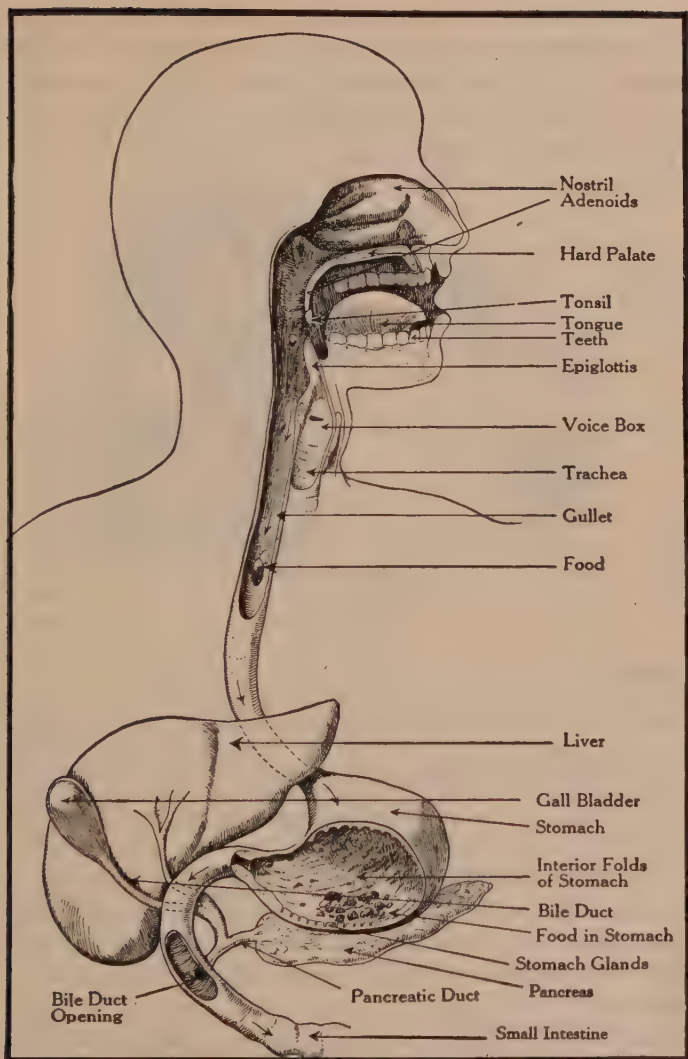

FIGURE 287. — MOUTH, GULLET, STOMACH, AND INTESTINES.
b. The Stomach. Once the food is in the stomach (Fig. 287), it is churned about by the gentle motions of the stomach walls, which are composed of three layers of muscles, all working in different directions. There are glands in the walls of the stomach, which secrete a juice called the *gastric* (gās'trik) juice, composed of water, pepsin, and .2% of hy-